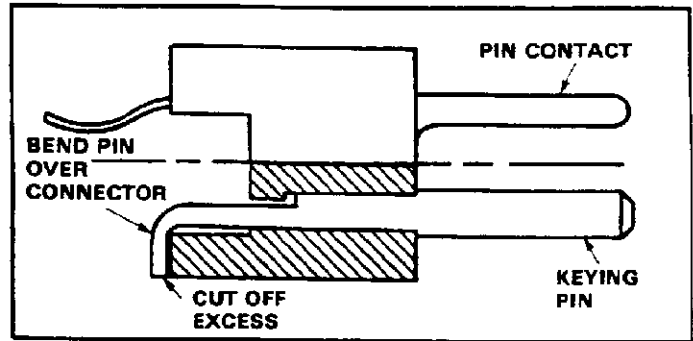

Fig. 14
3. Bend the tail of the keying pin over the edge of the housing and trim off excessive material. See Figure 14.